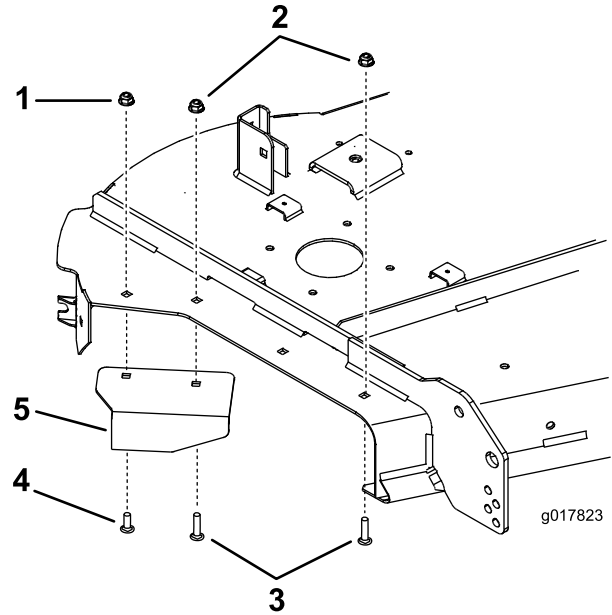

Figure 25
Note: When installing the existing baffle, ensure the correct holes are used for each bolt (Figure 25).
3. Install the existing baffle with a carriage bolt (5/16 x 1 inch) and nut (5/16 inch) from the previously removed baffle (Figure 25).
4. Use a new bolt (5/16 x 1-3/8 inches) and flange nut (5/16 inch) to secure the inside of the baffle (Figure 25).
5. Install a carriage bolt and flange nut into the front hole shown in Figure 25.